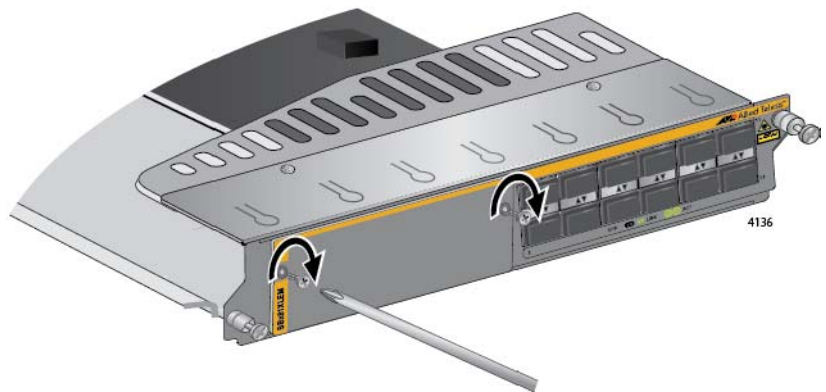

Figure 175. Securing the Blank Slot Cover
10. Secure the blank slot cover to the card with a Phillips-head screwdriver and the two screws removed in step 3. Refer to Figure 175.